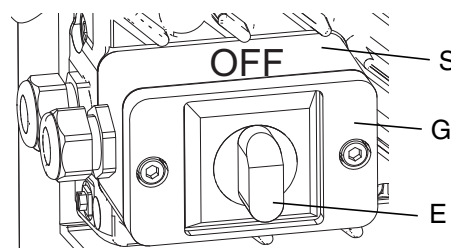

FIG. 2: Power Switch
- Bring cord to unit and remove four screws to separate junction box cover (G) with power switch (E) from remainder of sprayer. See FIG. 2.
2. Turn power switch (E) OFF. Connect unit to power source. See FIG. 2, page 5.